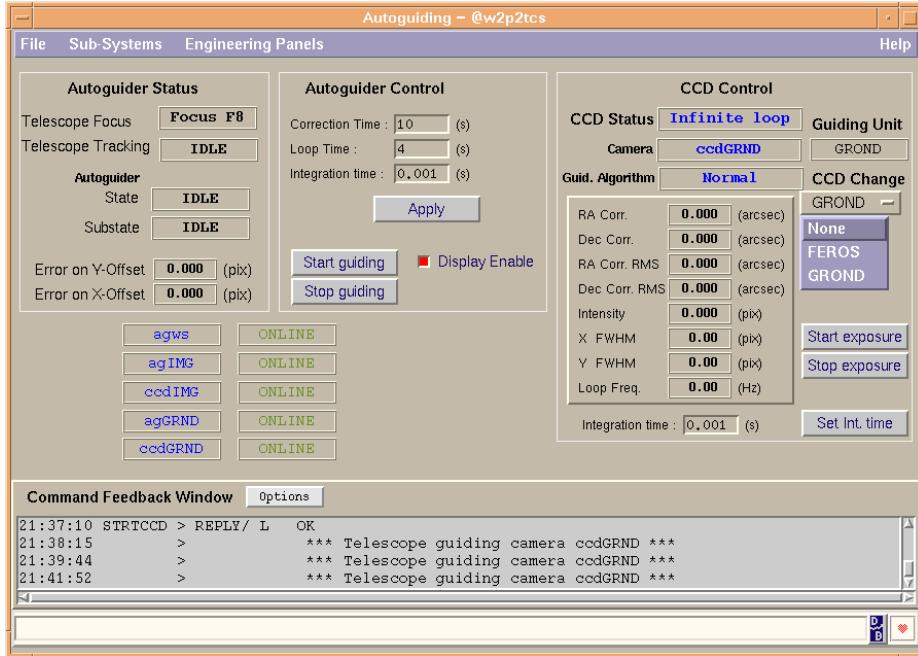

Figure 2.5: Switching between **GROND** and **FEROS** guide camera.
- select GROND below CCD change (see Fig. 2.5)
- i. select FEROS below CCD change (see Fig. 2.5)
Check that the **GROND** and **FEROS** guide cameras work by switching between them on the **AG** window (see Fig. 2.5). The switching should set the camera in CCD status **Infinite loop**. It may be necessary to click on **Start exposure** after switching to obtain this status. If status is **Fail**, the camera must be restarted (see Sect. 9.2).